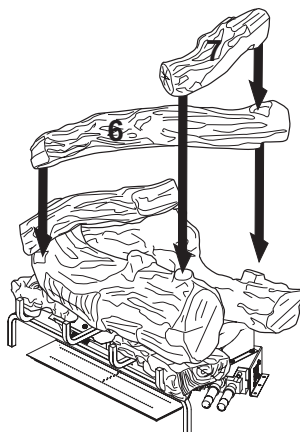

Figure 25 - Installing Logs #6 and #7
6. Place top middle log (#6) onto rear log (#1) and front log (#3). Match square peg on bottom of log #6 with square hole on log #4 and round hole on log #6 with peg on log #1 (see Figure 25).
7. Place top right log (#7) onto top middle log #6 and front log (#3) matching peg on bottom of top right log #7 with hole on top middle log #6 and hole in top right log #7 with peg on front log (#3) (see Figure 25).